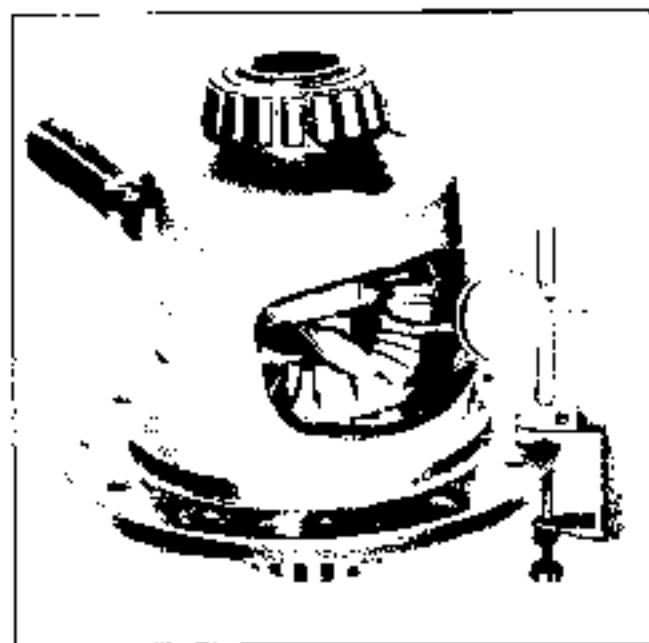

Fig. 4B-9 Checking Pinion Gear to Side Gear Clearance - Pontiac
d. Install dial indicator with the contact button against the pinion gear (Fig. 4B-9).